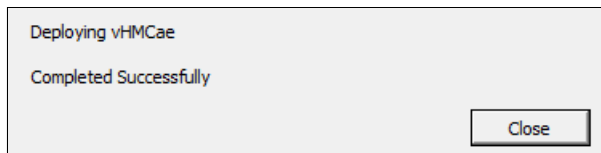

Figure 3-61 Deployment is successful
14. In the Deployment success panel (Figure 3-61), click **Close**.